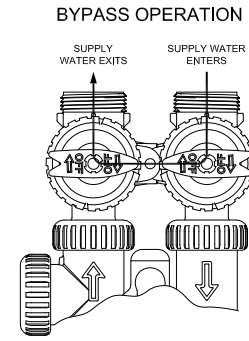

figure 2
**2. Bypass Position:** The inlet and outlet handles point to the center of the bypass, the control valve is isolated from the water pressure contained in the plumbing system. Untreated water is supplied to the plumbing system. (see figure 2)